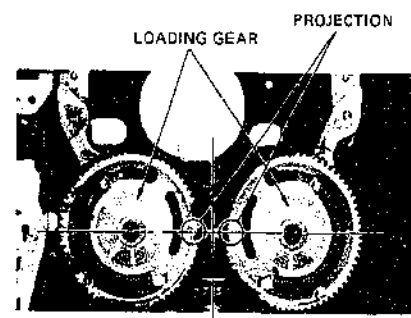

Fig. 38
- 1) Remove sub chassis (Fig. 38)